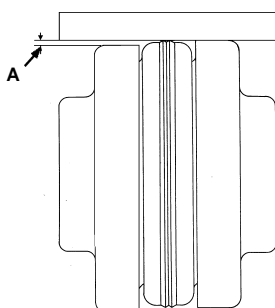

Figure 2-4
To check the PARALLEL alignment: (Refer to Figure 2-4)
2. Measure the maximum offset (A), Figure 2-4, at various points around the periphery of the coupling. **DO NOT** rotate the coupling.